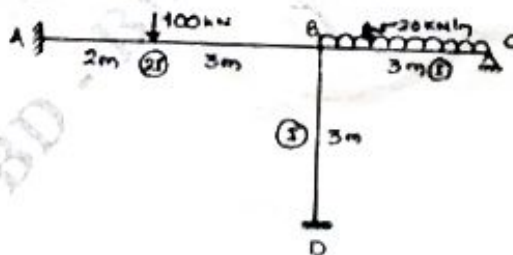

Fig.Q4
4. Analyse the frame by moment distribution method. Draw BMD, SFD and elastic curve. Refer Fig.Q4.